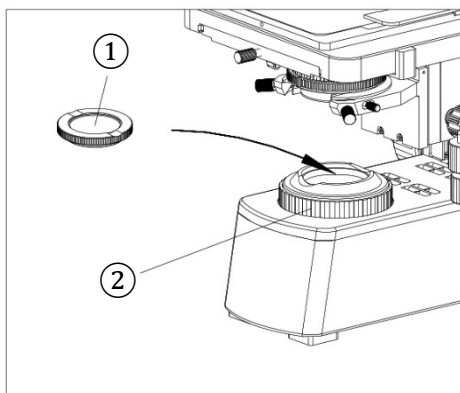
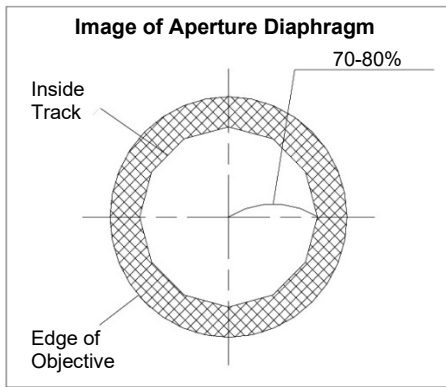

Fig. 25
Fig. 28
Insert the polarizer ① into the top receptacle of the field diaphragm holder ②. (Fig. 25)
Adjusting the Field Diaphragm (Fig. 25)
Rotate the field diaphragm adjustment ring ② (Fig. 25) clockwise to enlarge the field diaphragm, counterclockwise to decrease it.
Adjusting the Aperture Diaphragm Transmitted Illumination (Fig. 25, 28-29)
As the contrast is usually low, adjust the condenser aperture diaphragm to 70-80% of the objective N.A. being used. If necessary, remove the eyepiece to observe through the eyepiece tube. Adjust the aperture diaphragm adjustment ring ② (Fig. 25) to adjust proportion until you see the image (Fig. 28).
Use of graduation: set the N.A. of the condenser to 80% of the N.A. of objective (Fig. 28).